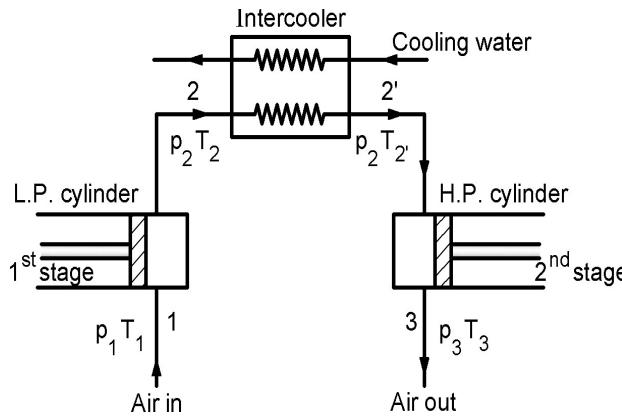
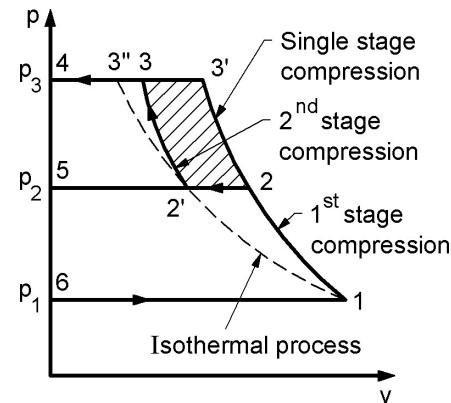

Fig.5.6 , Two Stage Compression
Fig.5.7 , P-V Diagram for two stage compression for comparison
- (1) Fig. 5.6 shows schematic arrangement for a two-stage reciprocating air compressor with intercooler and Fig.5.7 shows p-v diagram. Fresh air is sucked from the atmosphere in low pressure (L.P.) cylinder during its suction stroke at intake pressure p_1 and temperature T_1 .
- (2) The air, after compression in the L.P. cylinder from 1 to 2, is delivered to the intercooler at pressure p_2 and temperature T_2 .
- (3) Air is cooled in the intercooler at constant pressure p_2 from temperature T_2 to T_2' . Air then enters high pressure (H.P.) cylinder, where it is further compressed polytropically to delivery pressure p_3 . Compressed air from H.P. cylinder is finally discharged to a receiver. Curve 1-3' shows the compression process for single stage compression.
- (4) Shaded area 2-2'-3-3'-2 shows saving in work done using multi-stage compression. Both L.P. and H.P. cylinder are mounted on same crankshaft and are driven by electric motor.